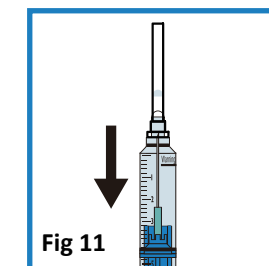

Fig 11
10. If the needle cannot be automatically retracted after the fiducial line of the piston covers with the zero graduation line on the barrel, please pull back the plunger until the needle is inside the barrel. And then re-cap the protecting cap (Fig 11).